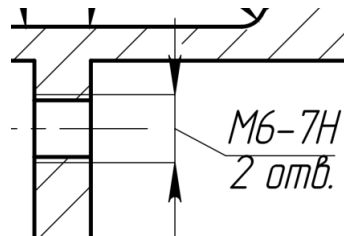

Figure 1: Task 1.1
1. What does it mean? You should explain each part of this notation (fig. 1).